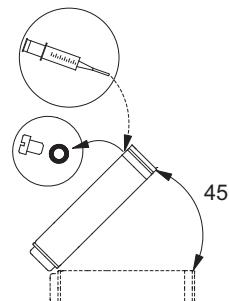

Fig. 4 Motor position during filling - MS 6000
- If the motor is delivered from stock, the liquid level must be checked before the motor is installed. See fig. 4.
- In the case of service, the liquid must be checked. See fig. 4.
1. Position the submersible motor as shown in fig. 4. The filling screw must be at the highest point of the motor.
3. Inject liquid into the motor with the filling syringe (fig. 4) until the liquid runs back out of the filling hole.